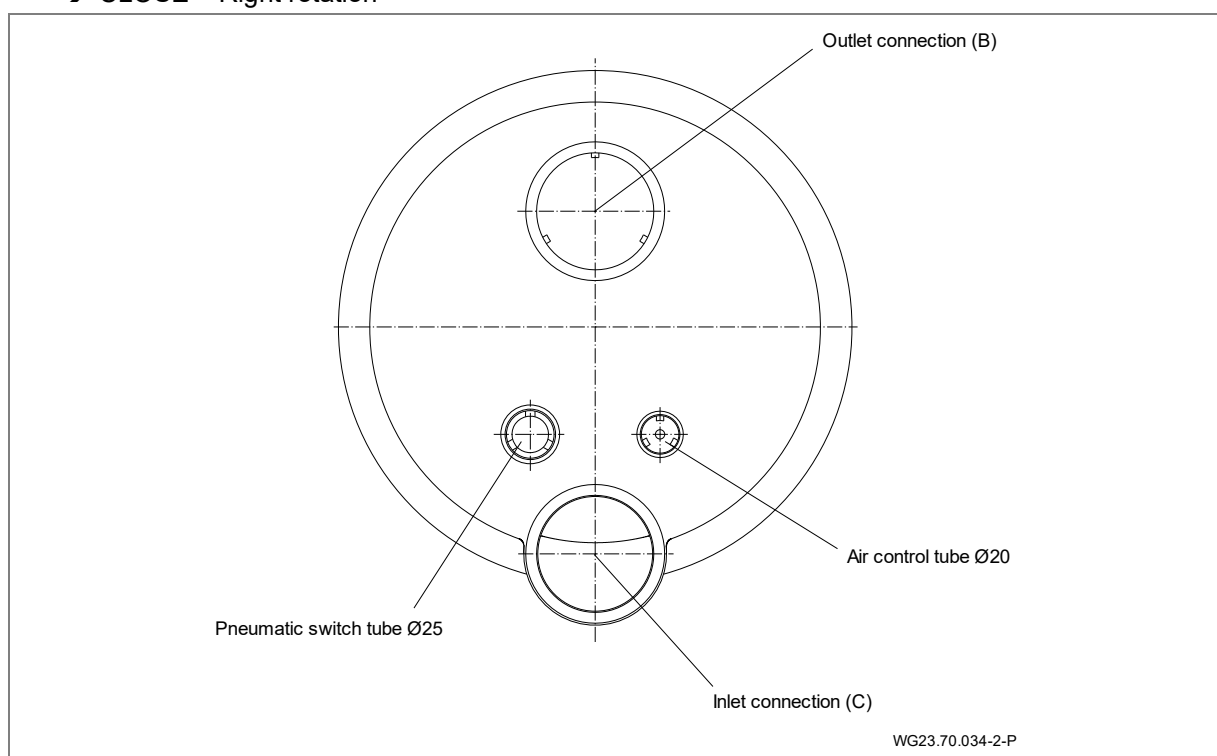
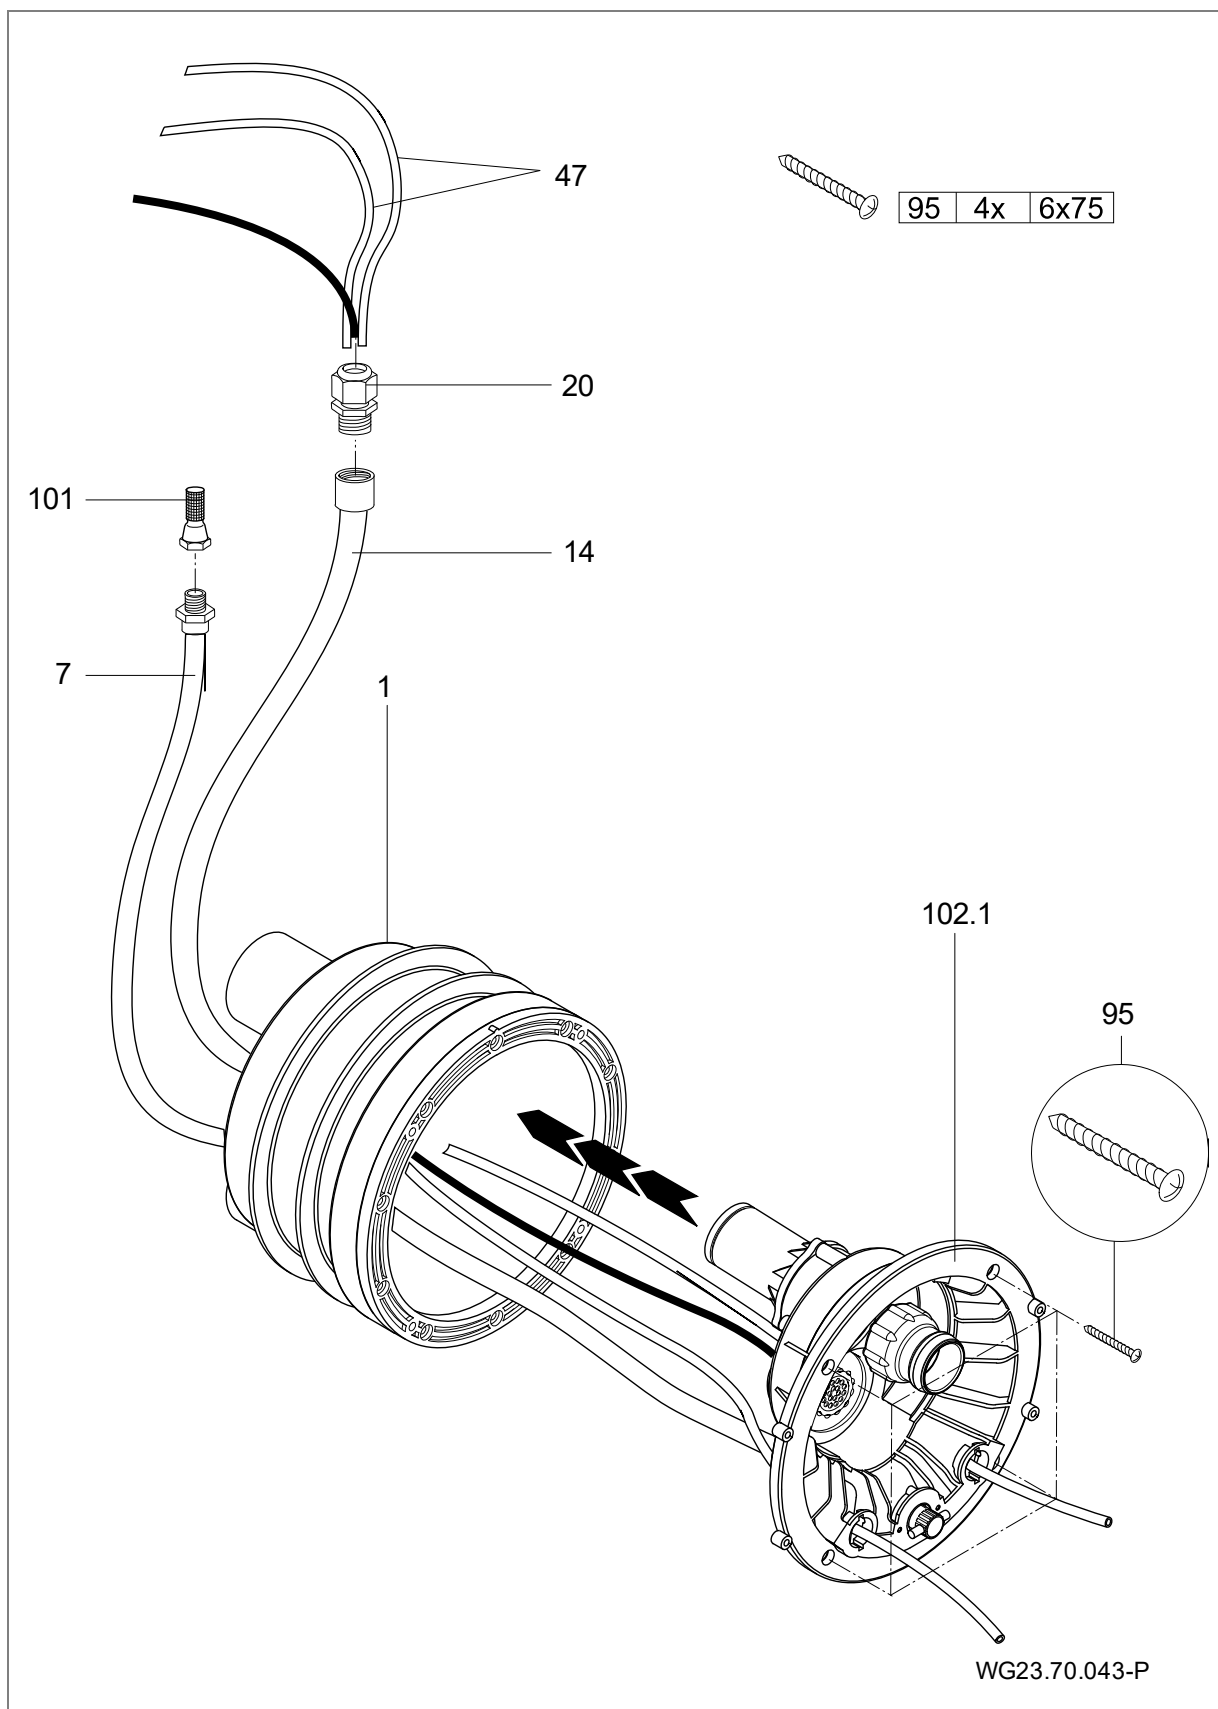

Fig. 16
Fig. 17
1. Glue in the cable protection hose and the hose for air supply. (Fig. 16)
2. Position the nozzle housing (102.1) on the main housing (1).
3. Lead the pneumatic hoses (47) and floodlight cables through the protective conduit (14) and seal with the cable gland (20).
4. Attach the air pipe to the air regulator (21), assembled on site, with a clamp (8).
5. Attach the nozzle housing (102.1) to the main housing (1) with 4 tapping screws (95). (Fig. 17)